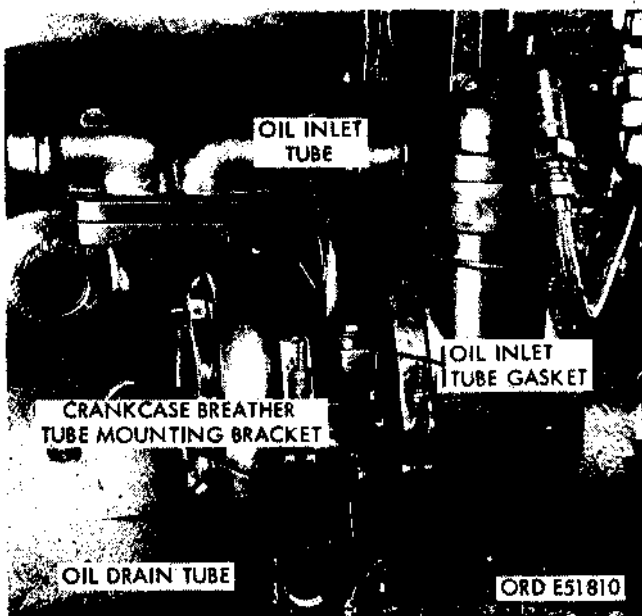

Figure 54.36. Disconnecting lubrication lines at turbocharger - multifuel models.
(11) Disconnect turbocharger inlet and outlet at the connection located on the upper section of the unit (figure 54.36). Loosen lower clamp securing turbocharger inlet hose. Remove capscrew and lockwasher securing oil inlet adapter to turbocharger. Remove nuts and capscrews securing turbocharger to exhaust manifold.